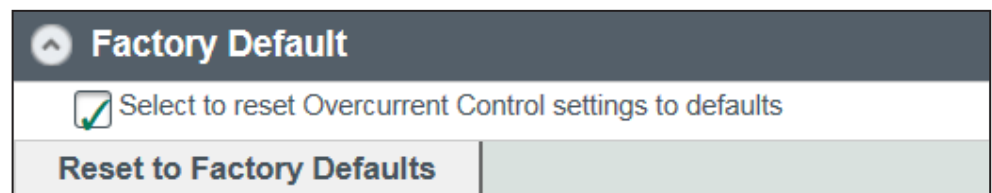

Figure 25. The Factory Default reset menu.
STEP 2. Under the **Factory Default** menu, click on the Select to Reset Overcurrent Control settings to defaults checkbox. See Figure 25.